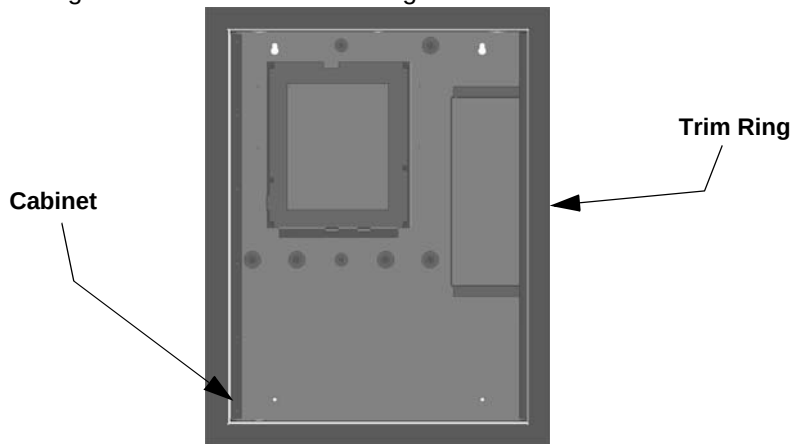

Figure 3-10 Trim Ring Around cabinet
4. Place the trim ring around the cabinet. See Figure 3-10.